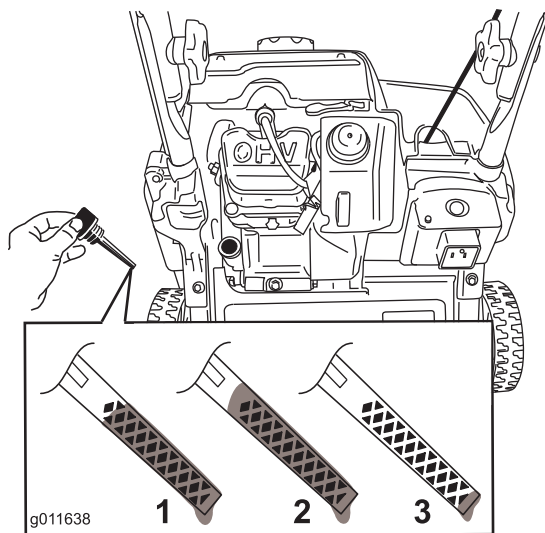

Figure 14
3. Clean around the oil fill cap (Figure 14).
8. To determine the proper oil level on the dipstick, refer to Figure 14.